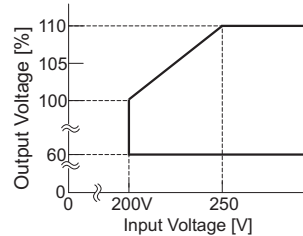

Fig.4.7 DBS700B Output Voltage Adjustment Range
- The output adjustment range for DBS700B is shown in Fig.4.7.